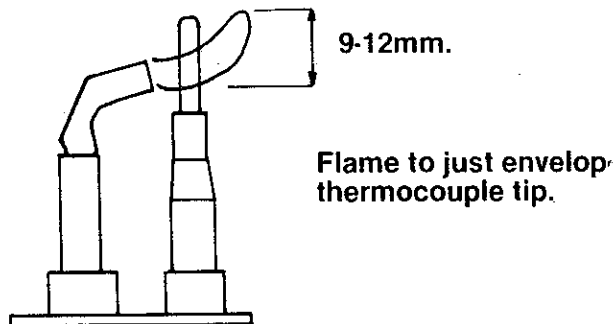

Fig. 4 Pilot flame adjustment.
- (g) Adjust pilot flame if necessary so that it just envelops thermocouple tip. To adjust flame, identify adjustment point (see Fig. 7) and turn screw *clockwise to decrease, anti-clockwise to increase flame*. See Fig. 4.